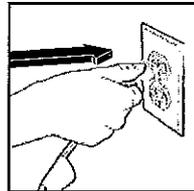

Fig. 37
- Plug the unit back into the electrical outlet ensuring there is no standing water in the vicinity (Fig. 37).